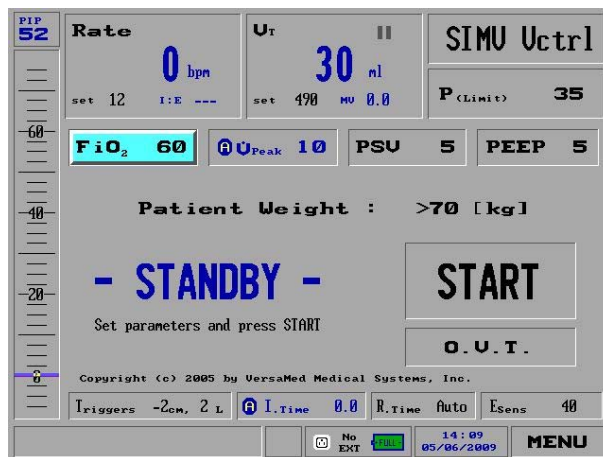

Figure 45: FiO2 Selected on the Main Screen
1. Select the FiO2 setting from the top left of the **Main** screen (Figure 45).